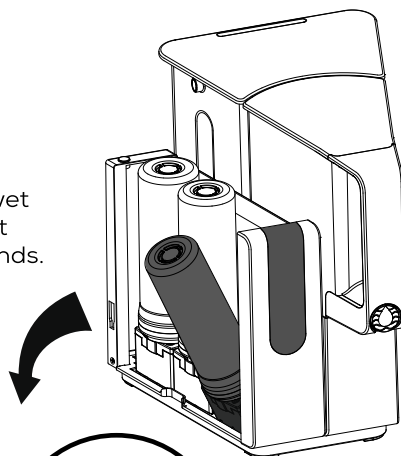

Figure 1
1. Pivot the filter outward to make it easier to remove (Figure 1).
2. Remove old filter by turning it counter clockwise (Figure 1).